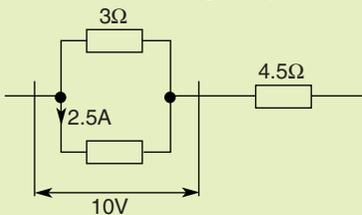

Figure 23
6. Determine the voltage drop across the $4.5\ \Omega$ resistor in Figure 23.